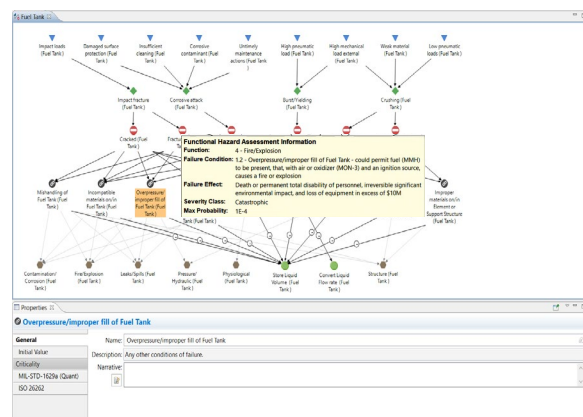

Figure B29: Example Linked Failure Diagram
- 3) Connect (as described in Step III.i.A.3) applicable hazard causes or *Linked Failure Condition* to the corresponding *failure conditions* and functions, as applicable, in the item’s *failure diagram* and delete any non-applicable or repeated hazard causes (Figure B29). Note: The same hazard cause may be present in multiple hazard categories, however only one hazard cause of the same name should be included in the *failure diagram*, but all applicable categories should be represented by at least one cause. The categories associated
with each cause can be viewed by hovering over the linked hazard causes [*Linked Failure Condition* (●)] and observing the resultant pop-up (Figure B29).
- 4) Add MADE *Symptoms* (represented by the ● symbol – Figure B29) to each *failure diagram* for each applicable linked hazard category and connect these to all the hazard causes, *Linked Failure Conditions*, that are associated with that hazard category, even if the *Linked Condition* is from another category. This is essential, since the HA Report needs to indicate all the hazard causes associated with each hazard category (even if their links were deleted as repeated *Conditions*).